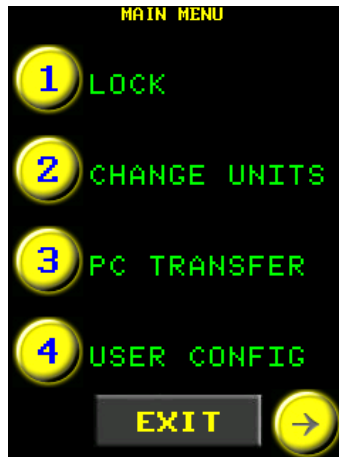

Figure 5.21-1: Main Menu
2. Select “User Config” from the Main Menu (Figure 5.21-1).